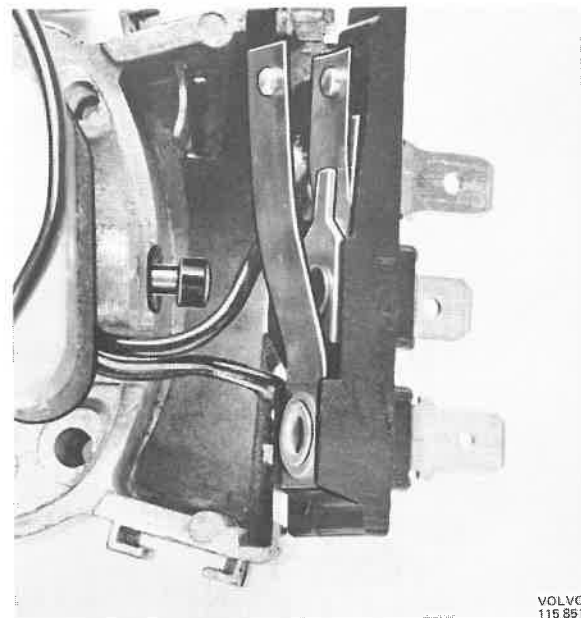

Fig. 36-13. Removing the parking switch
2. Remove the plastic plate over the parking switch. Remove the switch, brush retainer bridge and radio suppressor from the housing, see Fig. 36-13.